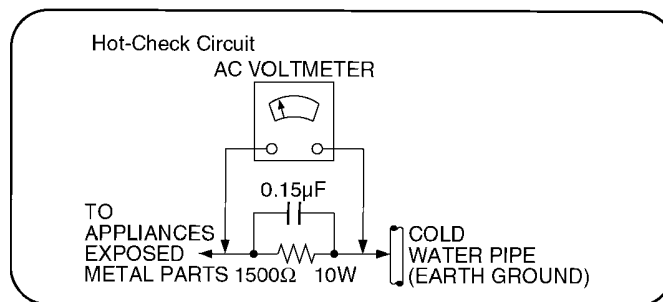

Figure 1
1.1.2. LEAKAGE CURRENT HOT CHECK (See Figure 1.)
2. Connect a $1.5k\Omega$, 10 watts resistor, in parallel with a $0.15\mu F$ capacitors, between each exposed metallic part on the set and a good earth ground such as a water pipe, as shown in Figure 1.